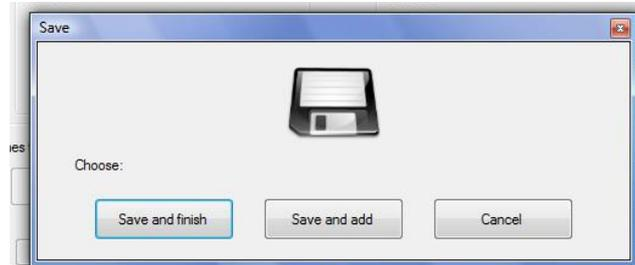

Fig.10
- SAVE AND ADD: store the data on the PC and initialize the program (i.e. the user must restart from the COLOURS window) to insert another receiver to the current installation; this is the case where an installation with multiple receivers (for example 10) must have different scenes for each one. Whenever 4 scenes are set up they are associated with different receivers. In this situation, click on NEXT in the SETTINGS window and the prompt appears to choose between SAVE AND ADD and SAVE AND FINISH (fig.10).